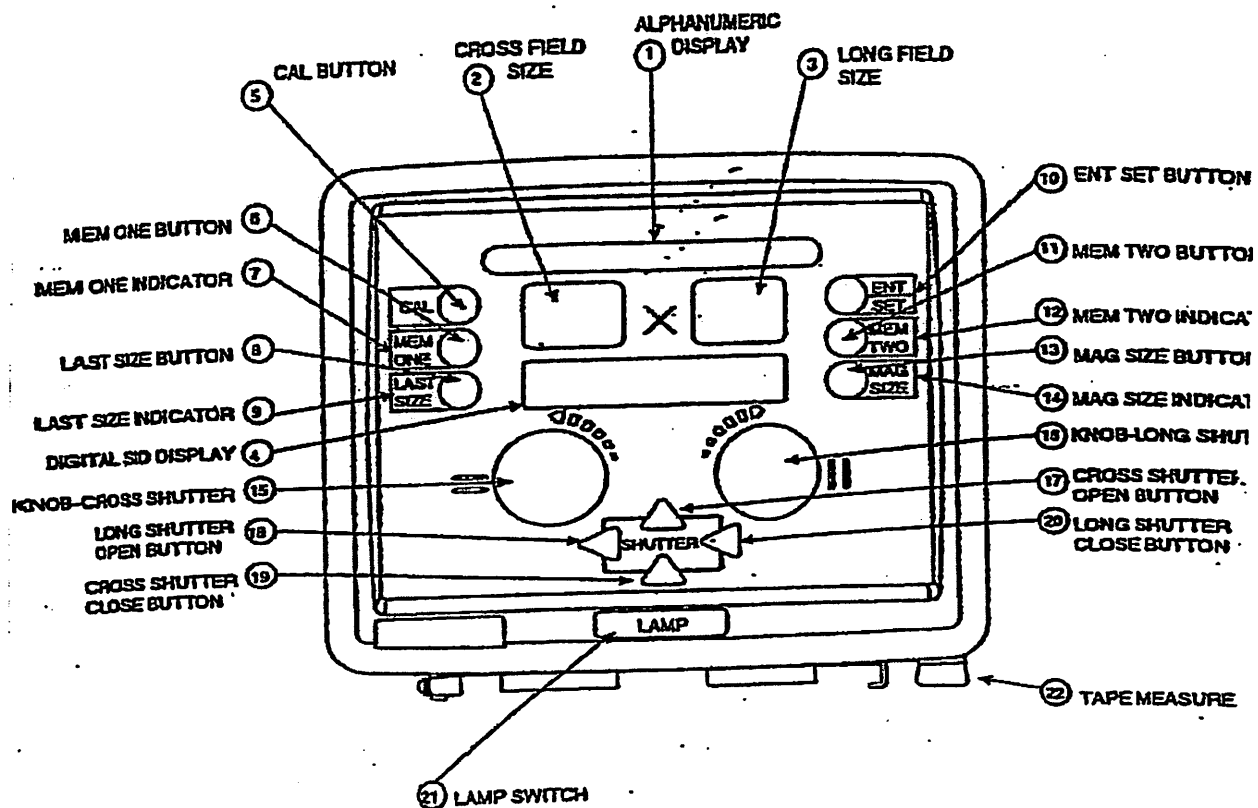

FIGURE 8.1
8. The MEM ONE and MEM TWO buttons can be used to store the current field size. Press and hold the MEM button (#6 or #11 in Figure 8.1) until the indicator light (#7 or #12) turns off, then release the button and the size will be stored. To later move to the stored size, press and release the MEM button and the shutters will move to the stored size.